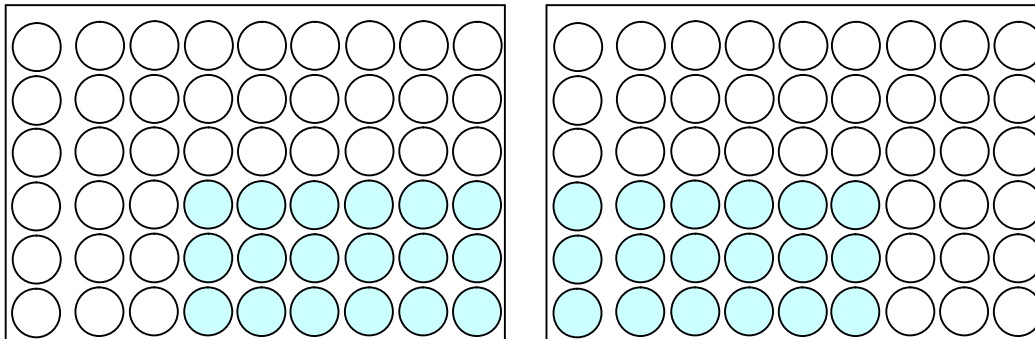

Fig. 1 – Low Beam ON
- Low Beam – obtained by turning ON the lower half of the LED Matrix (Fig. 1)